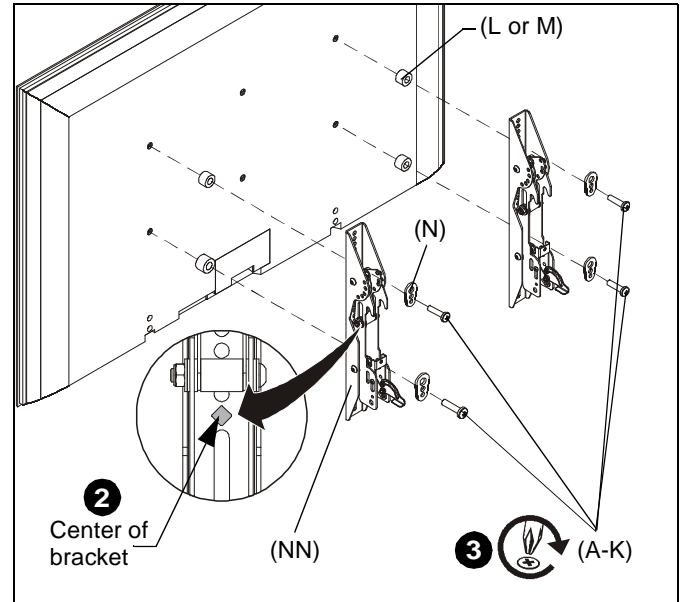

Figure 14
2. Align the center of the interface bracket (NN) with center of screen. (See Figure 14)
3. Select correct screws, spacers (if necessary) and universal washers from the hardware bag (A-N) and attach brackets (NN) to back of screen. (See Figure 14)